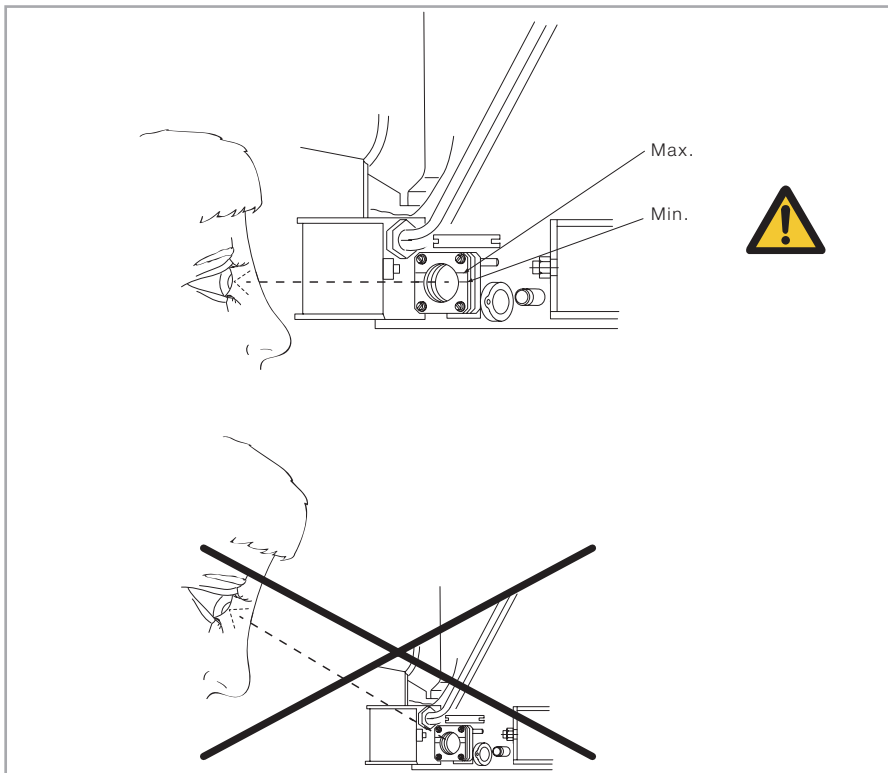

Fig. 11 Checking the level of the pump fluid
- After having filled in the pump fluid, wait a few minutes for the pump fluid to spread and then read off the oil level at the oil level sight glass. In order to correctly determine the oil level, read off the filling level at eye level (cf. Fig. 11).
- After having filled in the pump fluid, allow it to spread for a few minutes, and check again the filling level at the oil sight glass. To correctly determine the oil level, read off the filling level at eye level (cf. Fig. 11).